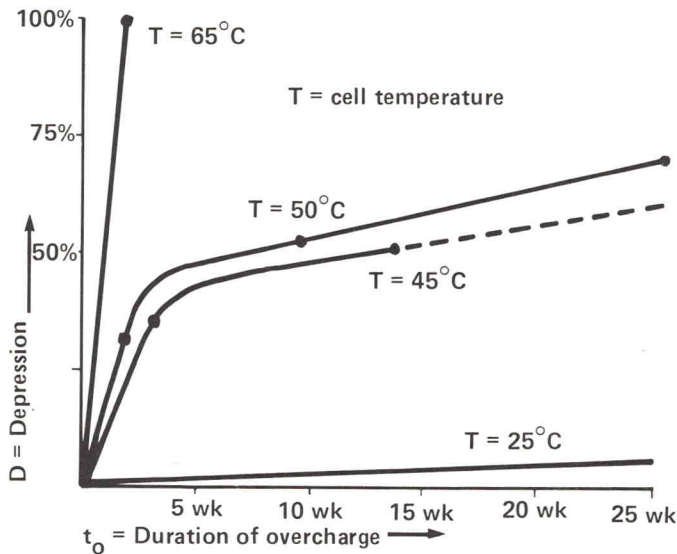

Figure 2 — Voltage-step depression as a function of overcharge time and cell temperature,  $T$ .
- Depression increases (i.e., the voltage step in Figure 1 moves to the left) with time and temperature, as illustrated in Figure 2.